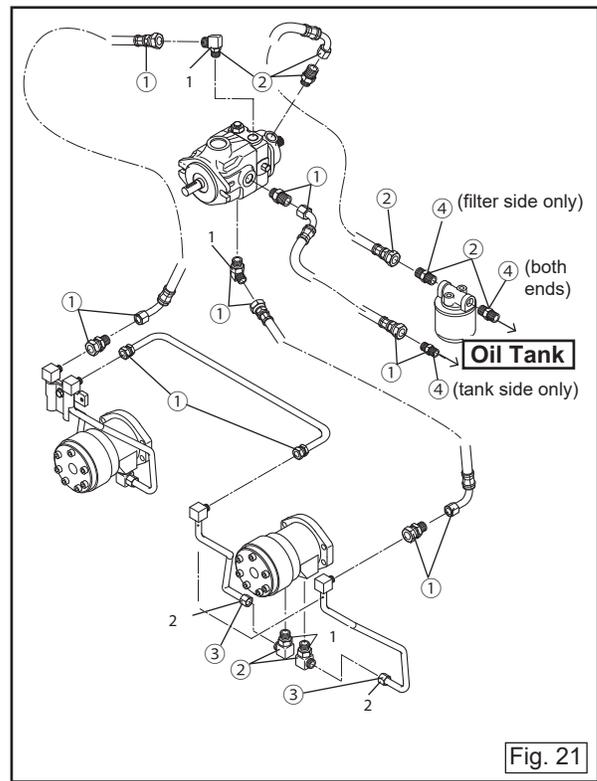
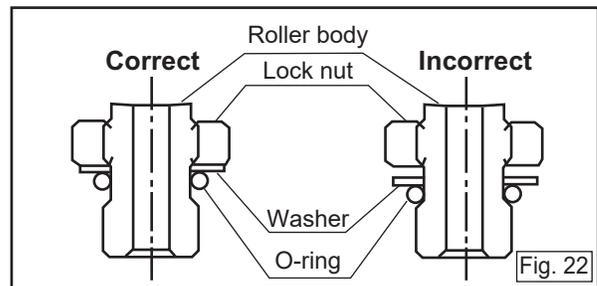

Fig. 21
Fig. 22
2. Tightening torque of the pipes / places to apply the liquid gasket (Fig. 21)
- ①.....36.14 lb-ft (49 N•m)
- ②.....43.52 lb-ft (59 N•m)
- ③.....57.53 lb-ft (78 N•m)
- ④.....Liquid gasket (Loctite 575)
1...When you install the Elbow 90° plug, check the position of lock nut, whether and O-rings for it are correct or not. Clean the screw, O-ring and the surface of O-ring port for the Elbow 90°plug. Grease the O-ring and screw of the Elbow 90°plug and screw it until contacting of its washer and O-ring port lightly. From this position, adjust the direction of the Elbow 90°plug in the loosening direction and tighten the lock nut. (Tightening torque 43.52lb-ft 59N•m) (Fig.22)